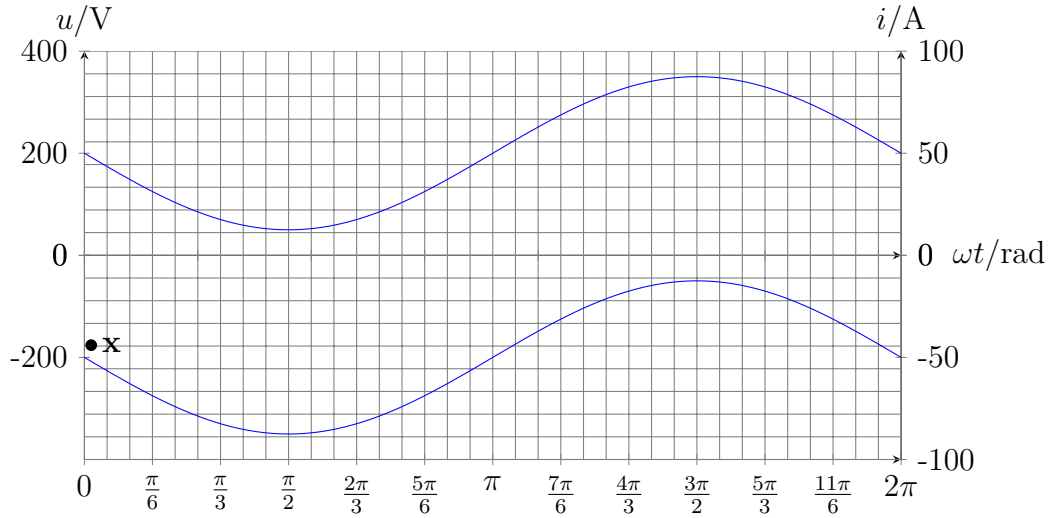

Figure 7.1.4: Harmonics of the output voltage and current.
7.1.3 In Fig. 7.1.4, draw the voltage harmonics  $u_2^{(h)}(t)$ . Try to sketch, approximately, the current harmonics  $i_2^{(h)}(t)$  by counting the voltage time area squares. One square corresponds to a voltage time area of 25.9 mVs. The starting point is marked with **x**.